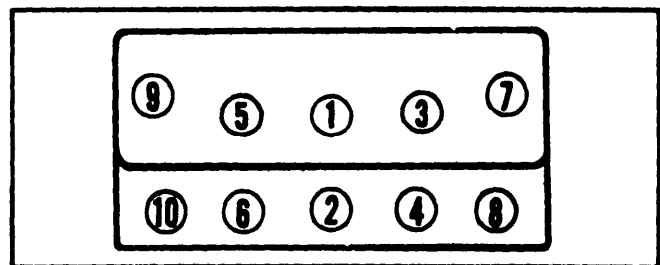

Fig. 2 Cylinder Head Tightening Sequence
2) Install bolts (two longer bolts in lower rear holes of left cylinder head and one long bolt in lower rear hole of right cylinder head) and tighten in three steps, in sequence (see Fig. 2).